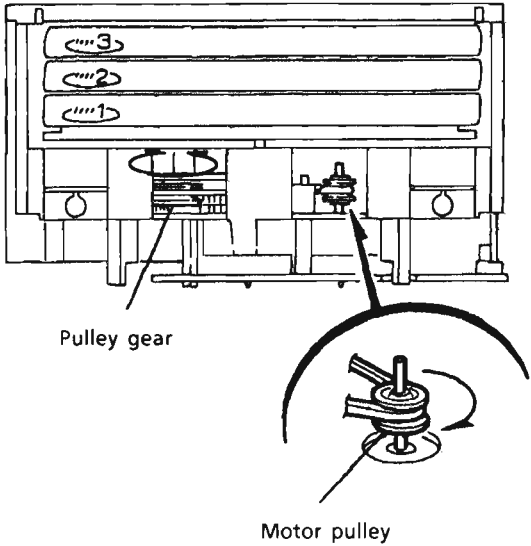
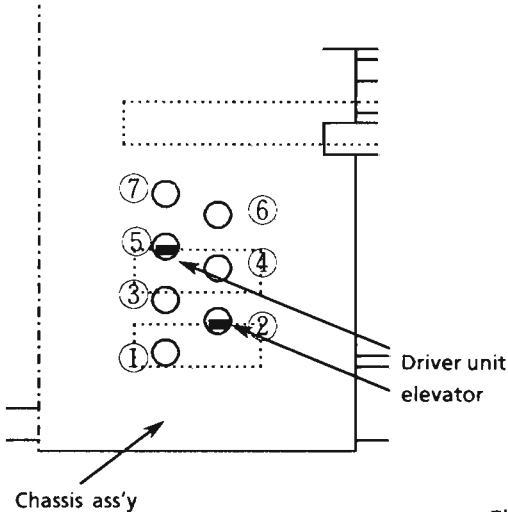

Fig. 34
Fig. 33
- [NOTE] Set the elevator in correct position (Fig. 33) by rotating the pulley gear with finger if it is not positioned correctly (Fig. 34.).
12. Rotate the motor pulley clockwise with finger until the lifter unit's stopper is lowered from ⑥hole located on the CD tray ass'y. (See Fig. 34.)